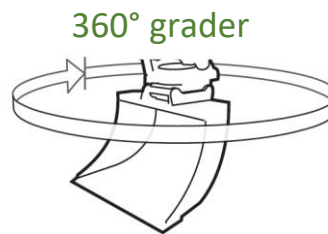

Figure 5
1. Rotations 360° grader (*Figure 5*)